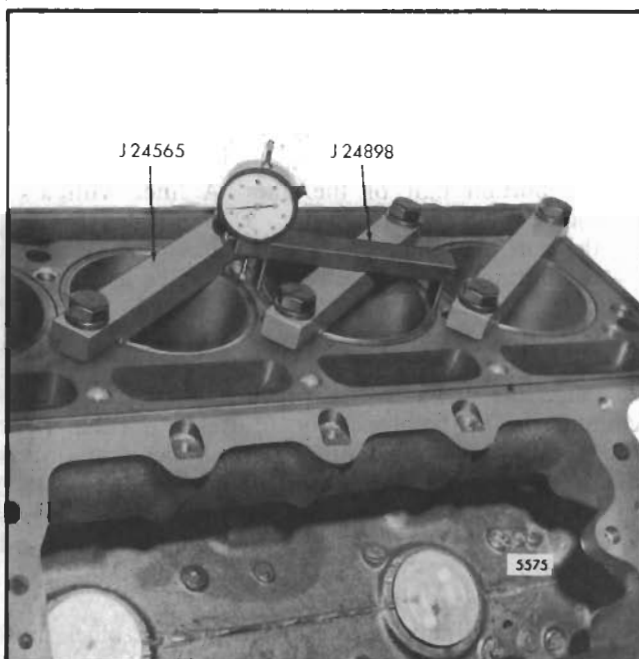

Fig. 7 - Checking Distance of Liner Flange Below Top Face of Block
4. Clamp the liner in place with hold-down clamp J 24565 as illustrated in Fig. 7 and tighten the two bolts to 50 lb-ft (68 Nm) torque.
5. Measure the distance from the top of the liner to the top of the block with a dial indicator (Fig. 7). The liner flange must be .0418" to .0482" below the surface of the block. However, even though all of the liners are within these specifications, there must not be over .0015" difference between any two adjacent liners when measured along the cylinder longitudinal centerline. If the above limits are not met, install a different thickness insert (Table 1), install the liner in another cylinder bore and recheck, or use a new cylinder liner.